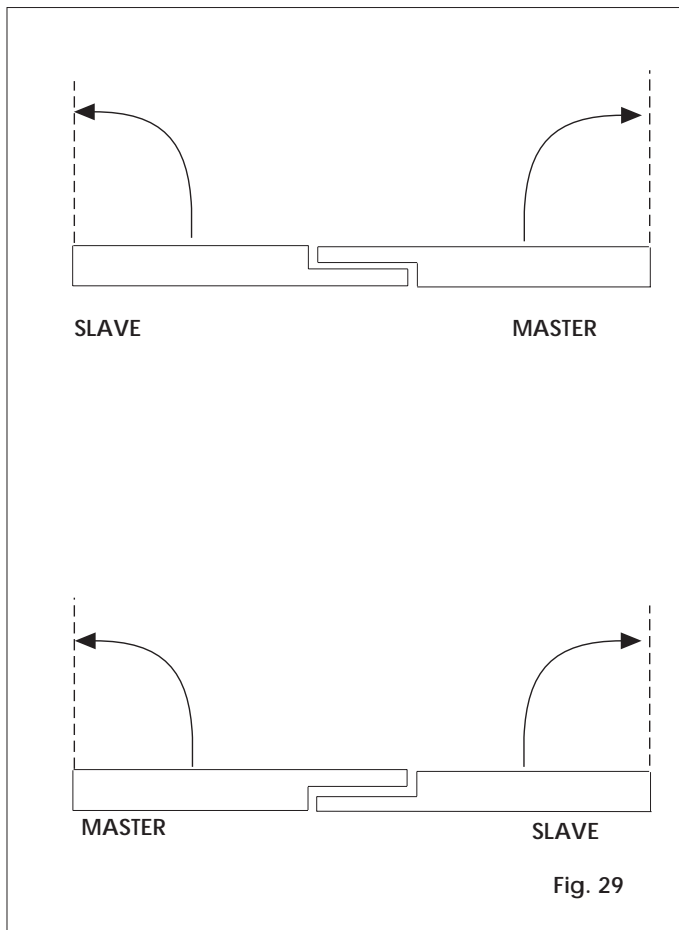

Fig. 29
The programmable "double swing door" function makes it possible to synchronise the movement of the two leaves that face each other (see figure 29). For a correct operation of the system, the opening of one leaf must be anticipated and its closing must be delayed.
- Connect the internal and external control devices, the emergency command, if present, and the electric lock to the electronic control unit of the MASTER automation (see fig. 29).
- On both the automations, activate **function 13**, “double swing door” output (ON), then define which is the MASTER leaf and which is the SLAVE one by programming **function 14** (fig.29).